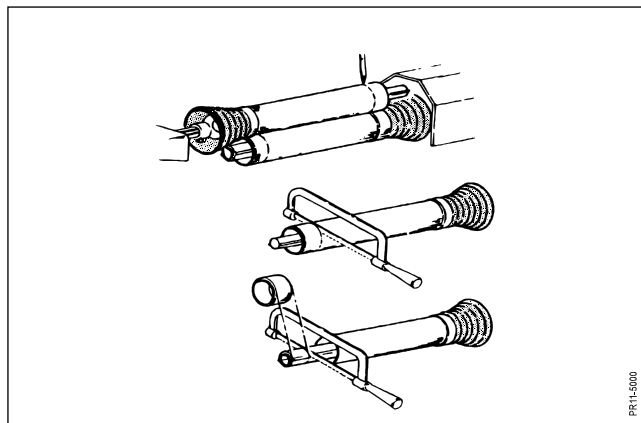

Fig. 2.7
- Fig. 2.7** Fasten the PTO drive shaft half parts to PTO (on the tractor) and PIC (input shaft on the machine), respectively, when these are at the same horizontal level and opposite each other. (The shortest distance from the machine). Keep the shaft ends parallel to each other and mark the 30 mm (minimum). Shorten all 4 tubes equally. The ends of the profile tubes must be rounded off and burrs must be removed carefully.